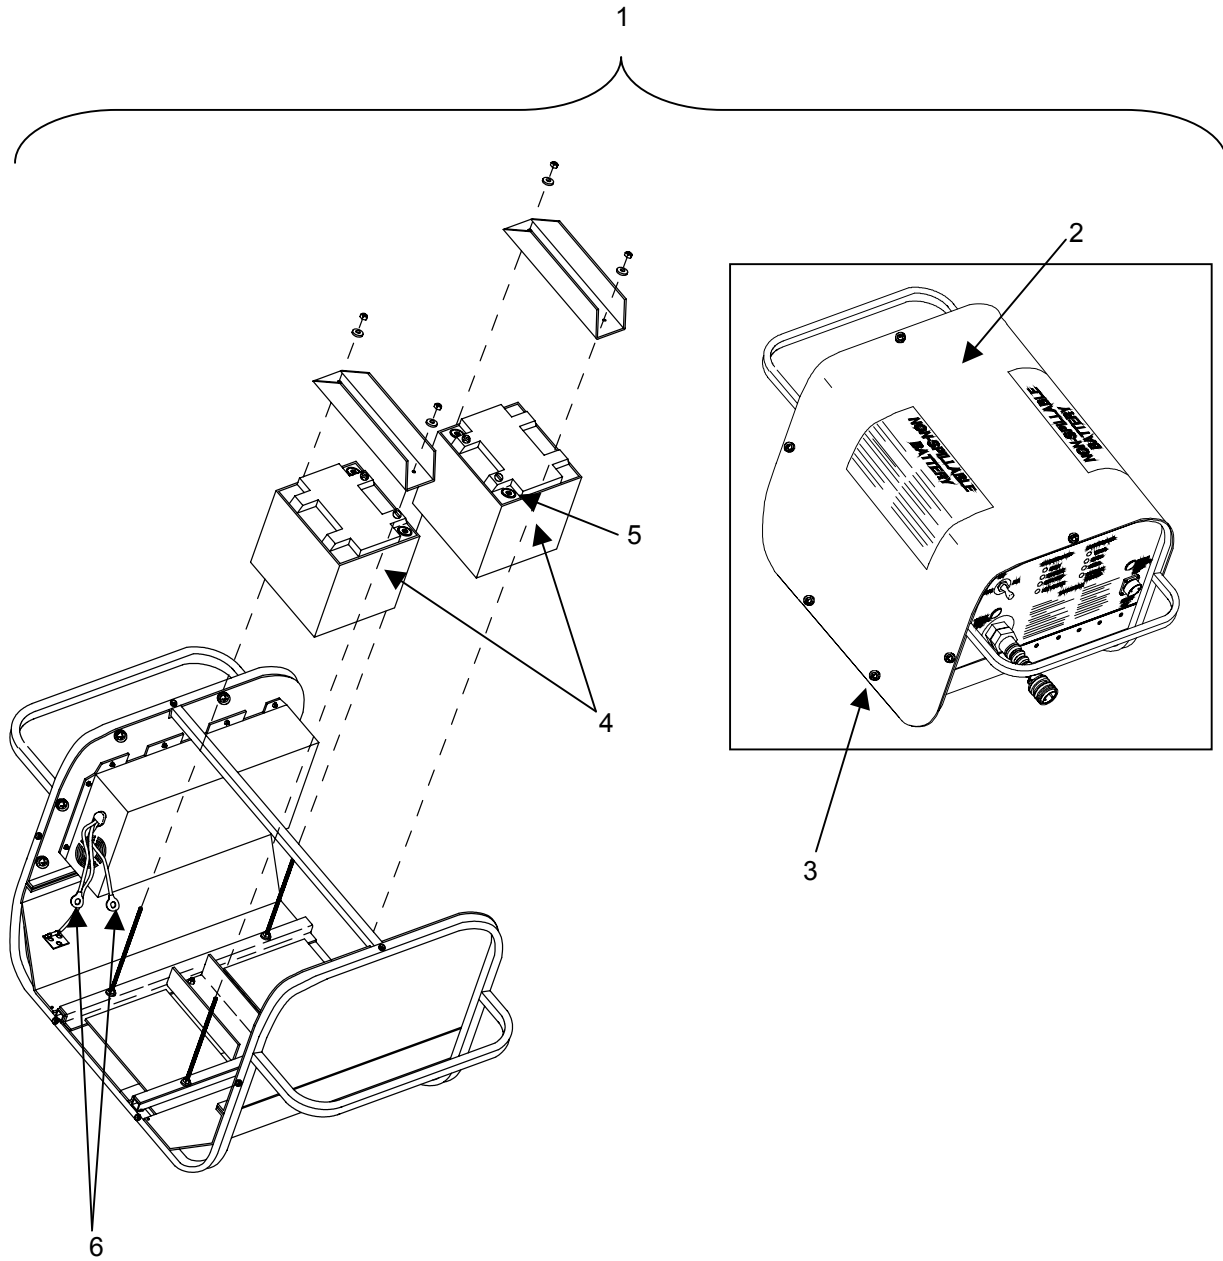

Figure 1. Inspect the Batteries
2. Inspect the outer casing of the lead acid batteries (**figure 1, item 4**) inside the Battery Pack (**figure 1, item 1**) for any damage that could lead to leaking.
3. Check the condition of the battery terminals (**figure 1, item 5**) for corrosion.
4. Disconnect the power lead terminals (**figure 1, item 6**) and clean as necessary.
5. Connect the power lead terminals (**figure 1, item 6**).
6. Install the outer cover (**figure 1, item 2**) and retain with the cover retaining screws (**figure 1, item 3**).